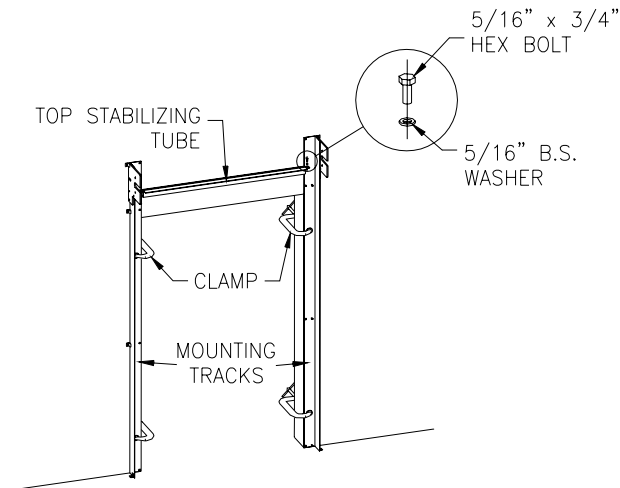

FIG. 5
- **Clamp one Upright flush to edge** of a door jamb with mounting holes against wall. (Figure 5).